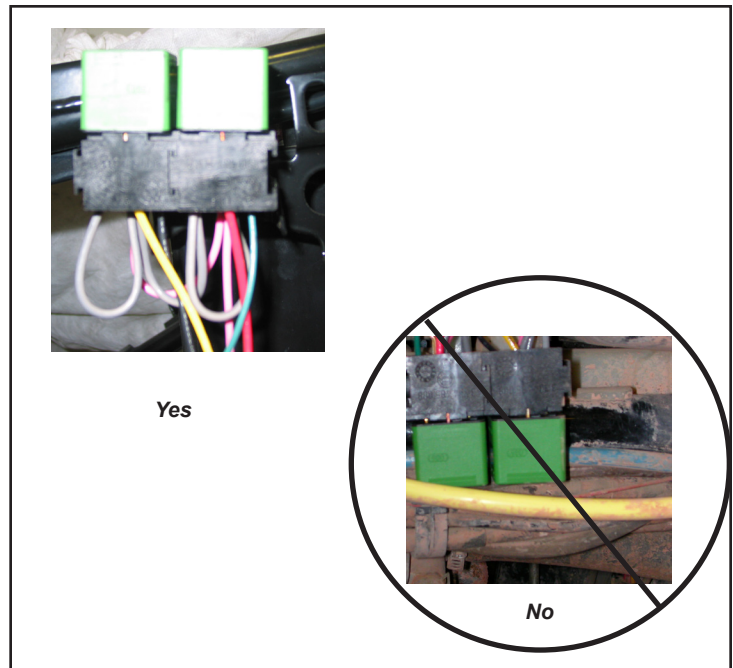

Figure 8 Relay Orientation
2. Route the wires along the vehicle frame and position the relays in an area that they can be secured in upright position. Secure relays to frame with cable ties, as shown in Figure 8. Relay location must be as clean and dry as possible.